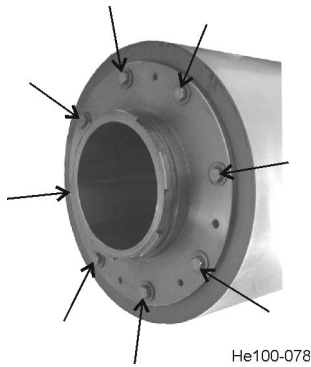

Figure 47 - Removal of Tube to Jacket Bolts
5. Remove the eight (8) 3/8-inch bolts that hold the removable tube to the jacket. See Figure 47.